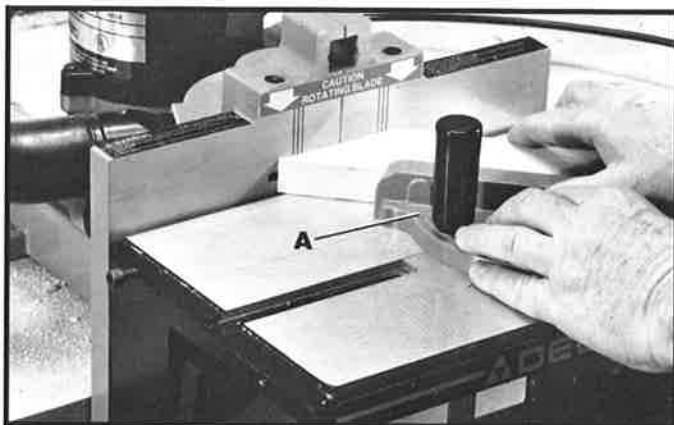

Fig. 47
1. Adjust the angle of the stock stop (A) Fig. 47, to conform with the miter angle of the workpiece, center the workpiece over the cutter slot, clamp the stock stop to the table and cut the biscuit slot in the first piece, as shown in Fig. 47. Note that "good" or face side of the board is against the table.